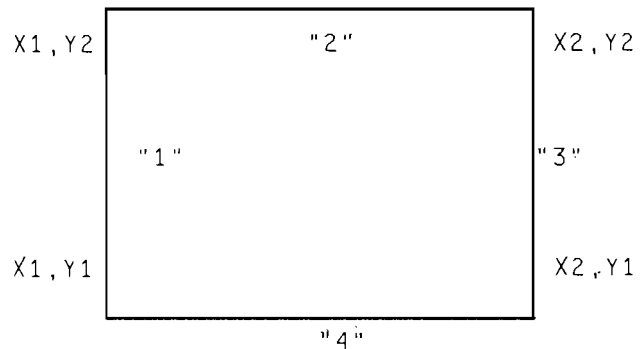

Figure 3-10. Drawing a Square on the Display
- d. Send the 1345A a Plot Y2 command with the beam on. This moves the beam to the X1,Y2 point shown in figure 3-10 (draws vector "1").
The 16-bit HEX data equivalence code to draw figures 3-10 and 3-11 is shown below: